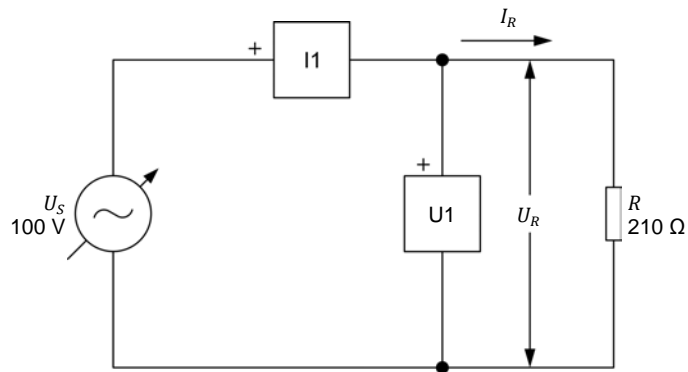

Figure 3-5. AC circuit containing a resistor and set up for power measurements.
4. Set up the circuit shown in Figure 3-5.
6. Calculate the active power P dissipated in the resistor of the circuit shown in Figure 3-5.